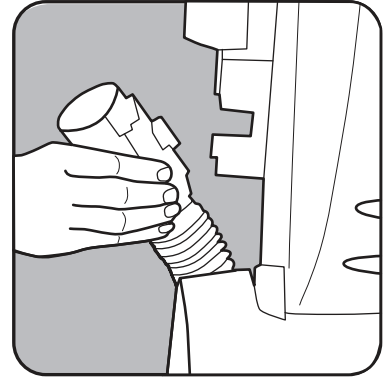

Fig. 1
2. Squeeze the tabs on both sides of the quick clean-out port and pull away from the vacuum (Fig. 1).